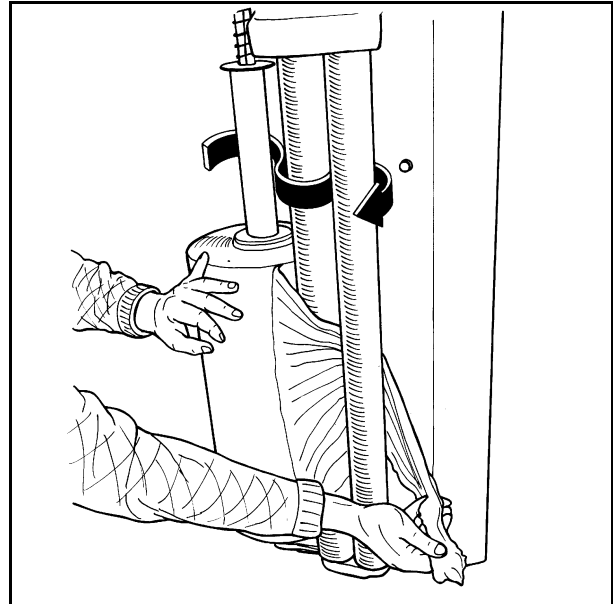

Fig. 6-2
- 6.3 Pull the film between the rollers on the prestretcher in the direction of the arrow. (See fig. 6-2). (See also the sign on the wrapping arm).